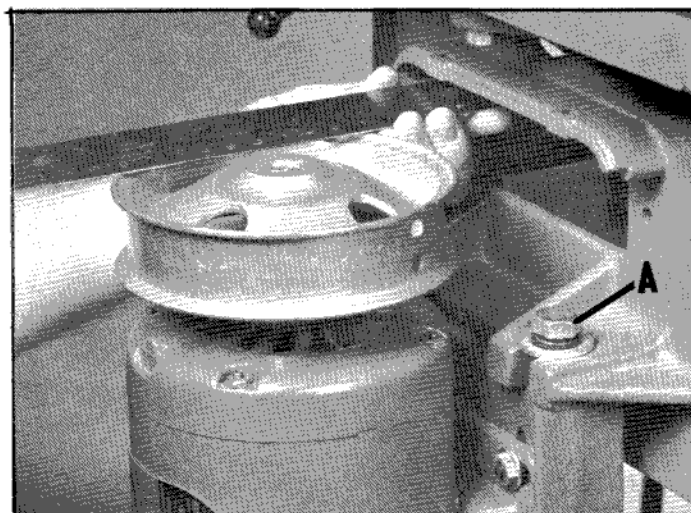

Fig. 10
2. When the spindle is at the top position the top edge of the motor pulley and the top edge of the spindle pulley must be in line. Use a straight edge to align pulleys as shown in Fig. 10, and tighten motor mounting bolts. If necessary the set screws in the pulley may be loosened and the pulley can be moved up or down on the motor shaft.
3. Assemble the belt to the two pulleys and adjust for correct belt tension by loosening two cap screws (A) Fig. 10, and move motor mounting plate in or out.